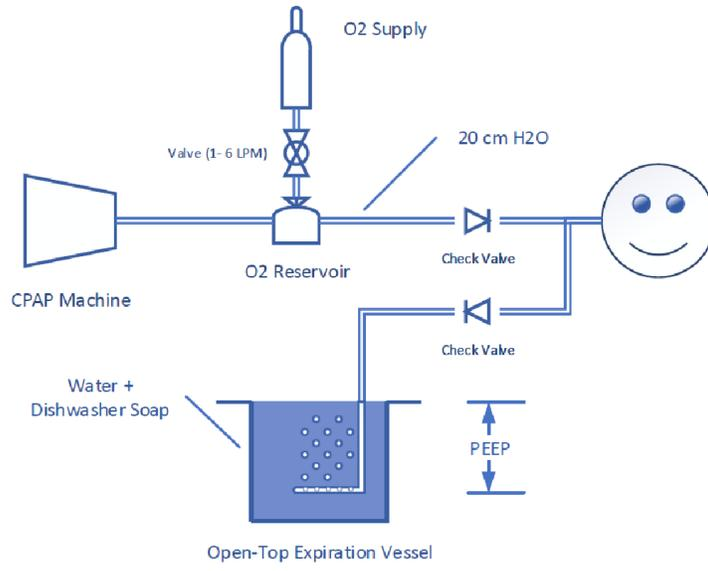

Figure 1: Enhanced CPAP with PEEP and Oxygen
**Modified CPAP** Our first concept (see a working model in the cited video) is a modified CPAP machine that may help people at home or to get out of the ICU. The inhalation and exhalation circuits are separate. Check valves are used to prevent mixing of the fresh and exhaled air. It uses an oxygen fortified CPAP or Bipap machine with a pipe in a bucket filled with water for exhalation resistance (positive expiratory ending pressure aka PEEP) Capture of the exhaled breath under water prevents the virus from escaping into the room. Dishwasher soap and/or bleach in the bucket kills the virus without foaming up. This needs a source for masks (maybe thermoformed or 3d printed, or adapted from painting respirators. (See figure 1.) This system could be used: